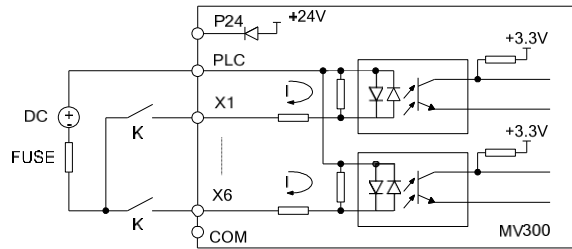

Fig. 3-12 The wiring mode when using the external power supply
2) When using the external power supply (which shall meet the UL CLASS 2 standard, and 4A fuse shall be installed between the power supply and the interface), the wiring mode is as shown in Fig.3-12 (be sure to remove the short circuit plate between PLC and P24).